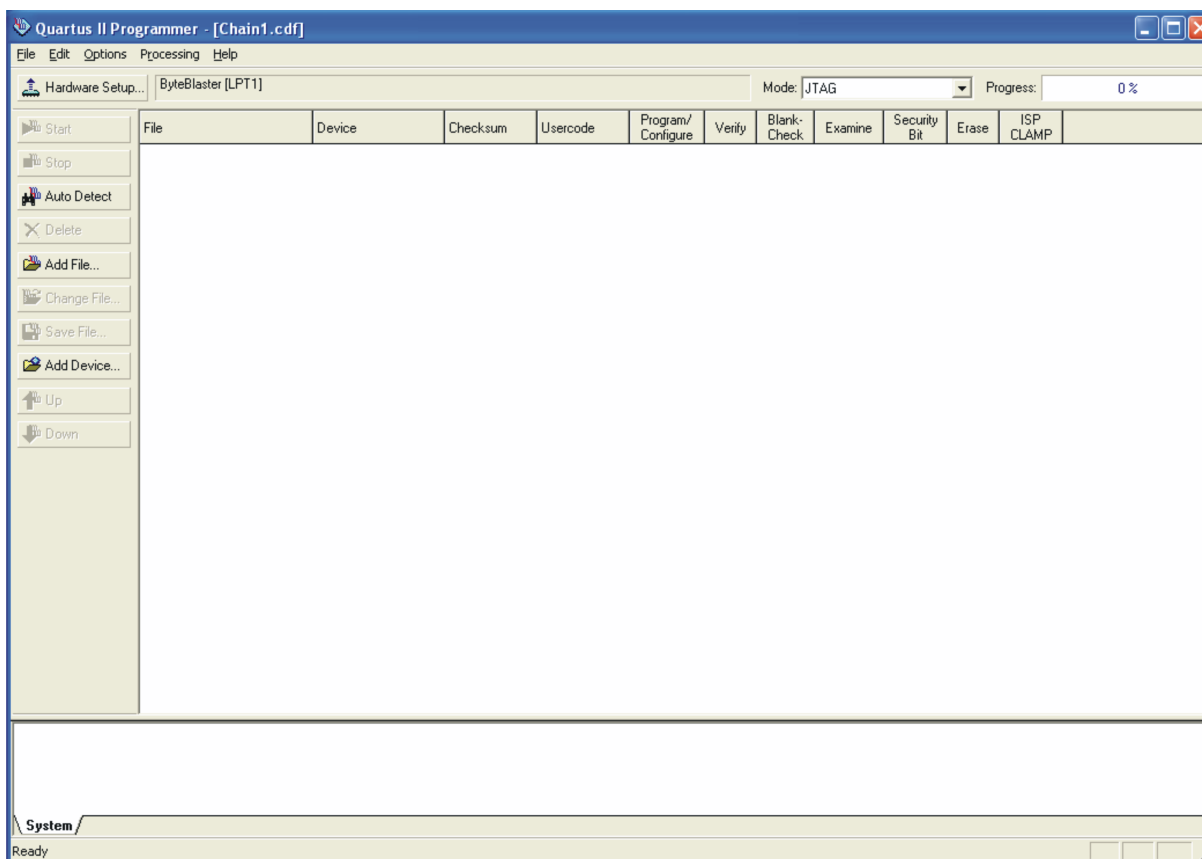

Figure A-1. Quartus II Programming Interface
2. Start the Altera Quartus II™ Programming software. The Quartus II application window displays as in Figure A-1.
- a. Click the **Hardware Setup** text box in the top left-hand corner of the Quartus II application (Figure A-1).